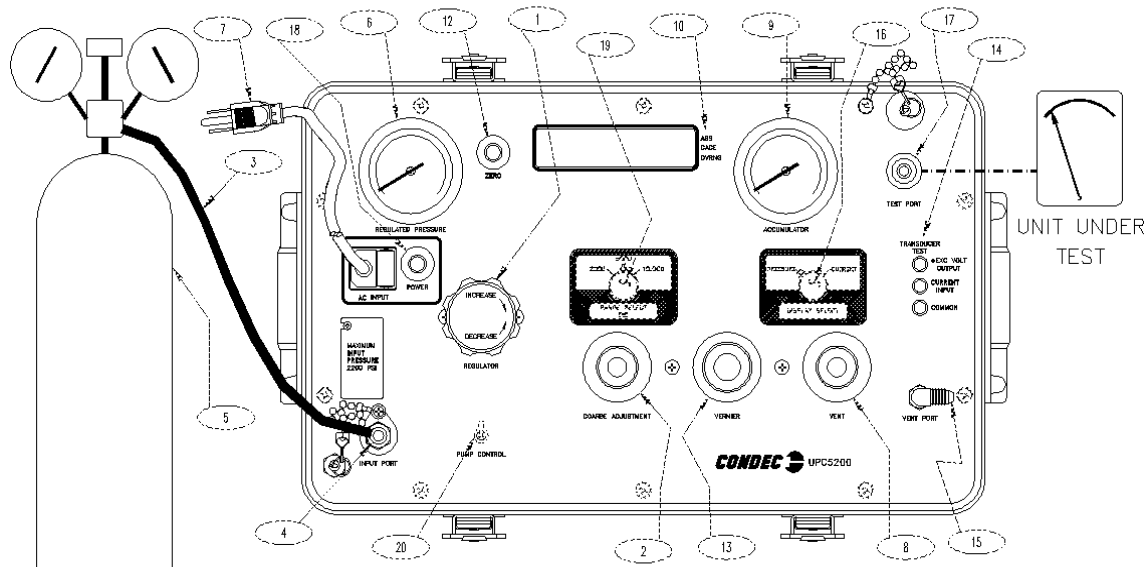

Figure 2-2. Pressure Measurement Sequence (Gage Only)
NOTE: See Figure 2-2 on page 6, when following these steps.
To calibrate the current input, a current generator capable of generating 20 mA must be connected to the COMMON and CURRENT INPUT jacks, see Figure 2.2 on page 4 (14). The DISPLAY SELECT switch (16) should be on the CURRENT position.